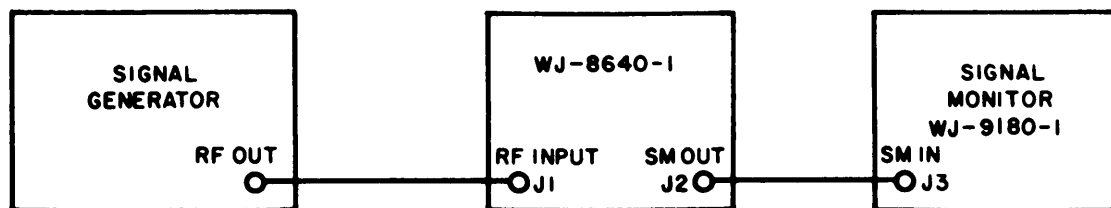

Figure 4-1. Test Setup, IF Rejection Circuit
- (1) Connect the Receivers shown in Figure 4-1.